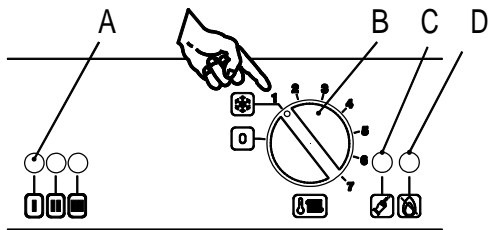

Figure 5.2
- 2 Turn on the electricity supply to the boiler, switching on the circuit breaker. The appliance operation light A (figure 5.2) will flash every 4 seconds (stand-by condition).
- 3 If the boiler is to be used for c.h position the function selector B as in figure 5.2. The appliance operation light A will flash every 2 seconds (operating boiler).
- The appliance operation light A (figure 5.2) will flash every 4 seconds (stand-by mode).